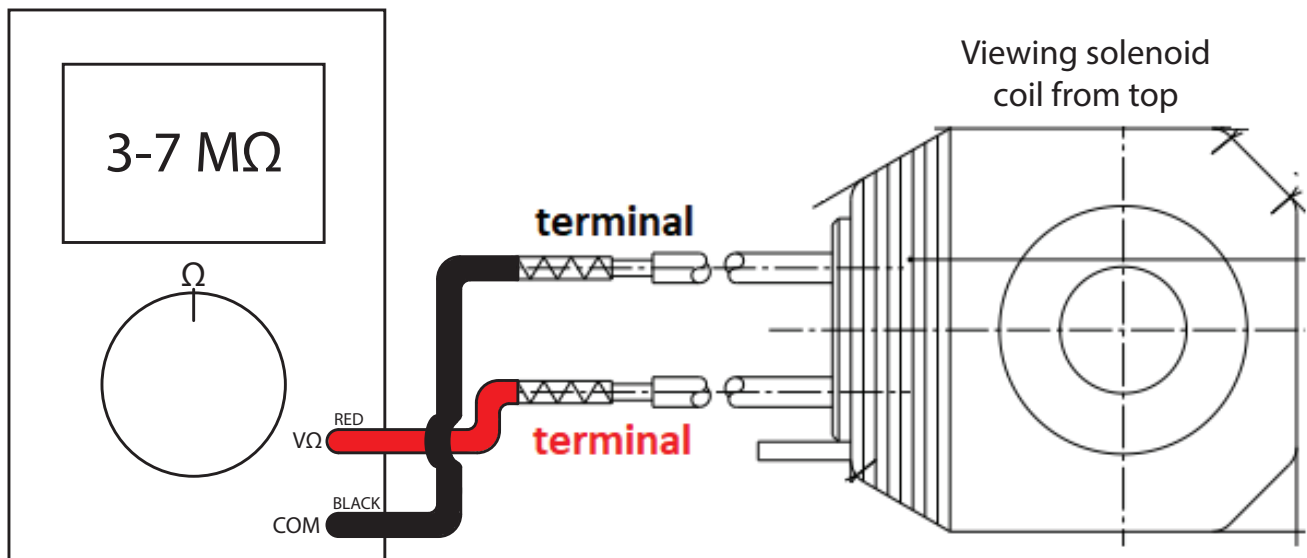

Figure A1-3: Testing 230V Solenoid Coil - Step 1
Step 1: Connect the BLACK multimeter lead to the upper lead from the coil (viewed from the top). Refer to Figure A1-3.